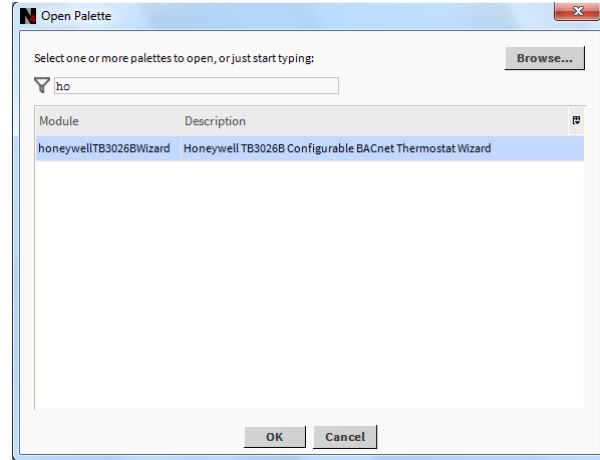

Figure 24: Adding 'honeywellTB3026BWizard' to BACnet Network
- An 'Open Palette' window will open. Find a module named 'honeywellTB3026BWizard' as shown in Figure 24, Select it and click 'OK' button to add into the Palette.